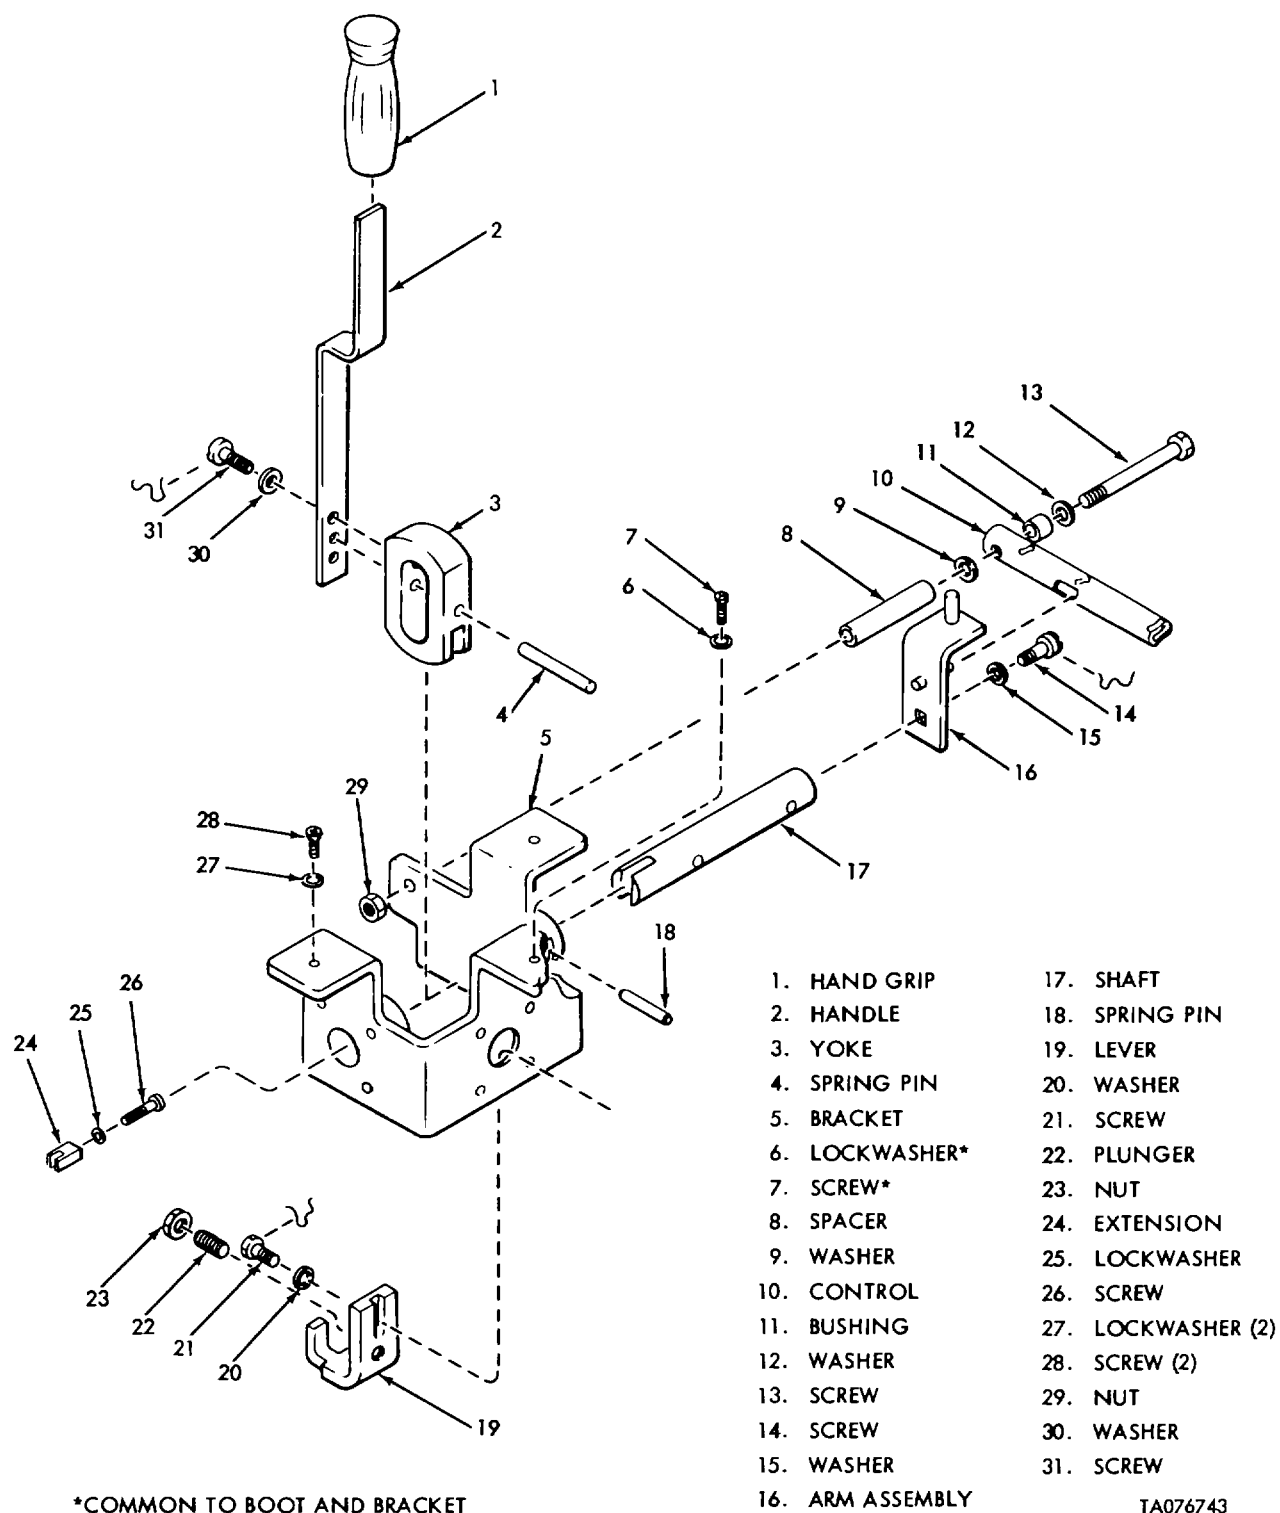

Figure 3-48. Hydraulic Control Console - Control Linkage Removal
- (1) Disconnect tube assemblies (1, 4, 33, and 38) from roll control valve (39).
- (2) Disconnect tube assemblies (16, 17, 23, and 26) from elevation control valve (20).
- (3) Remove four each screw (27) and washer (28) and remove roll control valve (39) from bracket (9).
- (4) Remove elbow (5) with associated parts (6, 7, and 8) from roll control valve.
- (5) Remove union (2) with packing (3) from roll control valve.
- (6) Remove elbow (37) with associated parts (34, 35, and 36) from roll control valve.
- (7) Remove elbow (32) with associated parts (29, 30, and 31) from roll control valve.
- (8) Remove extension (24, fig. 3-48) from control valve.
- (9) Disconnect lever from elevation control valve shaft. Refer to paragraph 3-32.
a. Removal (fig. 3-48).
(1) Remove grip (1). Remove boot. Refer to paragraph 3-32.
- (3) Remove nut (20) from screw (36).
- (4) Remove screw (36) with two washers (33), control (35), bushing (34) and spacer (32).
- (5) Remove screw (31) and remove azimuth control handle (26) with grip (25), adapter (29) and seals (27 and 28).
- (6) Remove nut (8) and spring pin (7) to remove handle (9), washer (10), and spring (11) from shaft (19).
- (7) Remove screw (23) and washer (22) and remove elevation/roll control handle (21) from the control linkage yoke. Refer to figure 3-48.
- (8) Remove screw (15) and remove extension control handle (14) with grip (13).